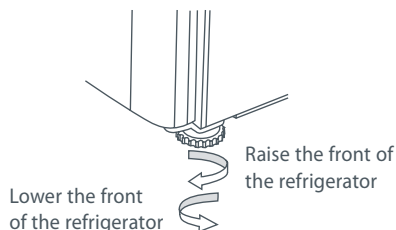

Fig.10 Refrigerator feet
- C Adjust the front feet **down** until the refrigerator is leaning backward with the front approximately 10 mm higher than the back. This will ensure a good door closing action. (Refer to Fig.10).